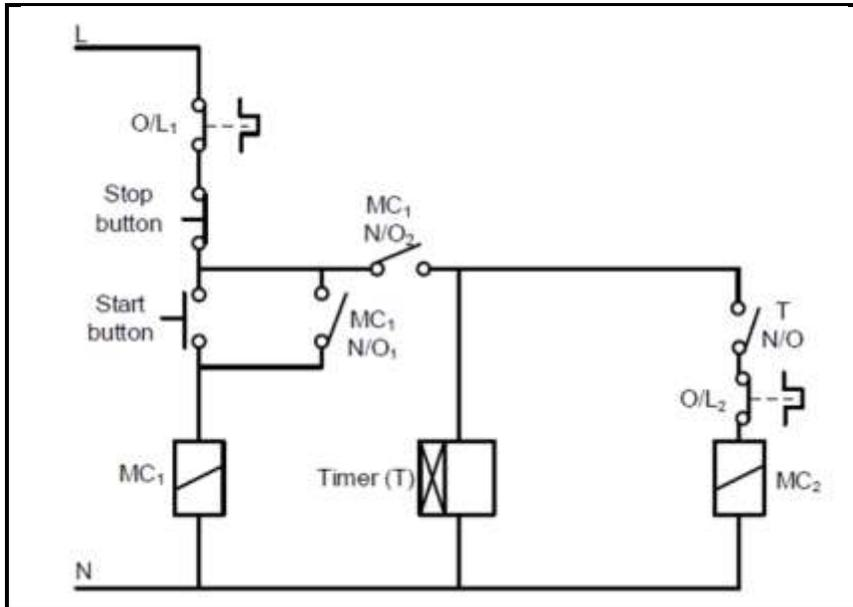

FIGURE 2: CONTROL CIRCUIT
4.3 Study FIGURE 2 below and answer the questions that follow.
4.3.1 Identify the motor starter in FIGURE 2.